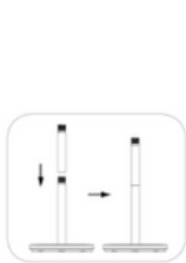

Fig. 2
2. Screw the second stand column to the column installed in the previous step and tighten securely to install the head assembly (Fig. 2).